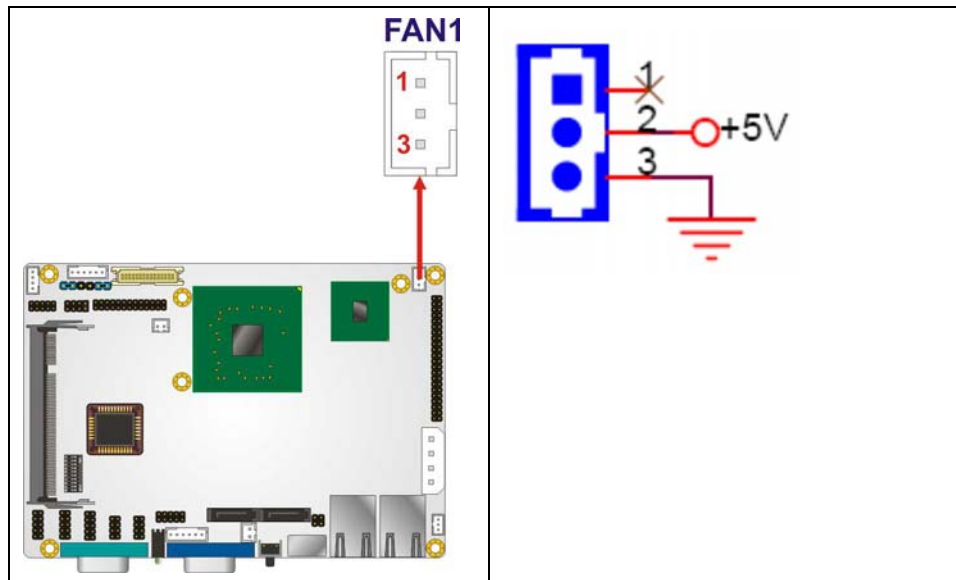

Figure 4-10: Fan Connector Location
- CN Location:** See **Figure 4-10**